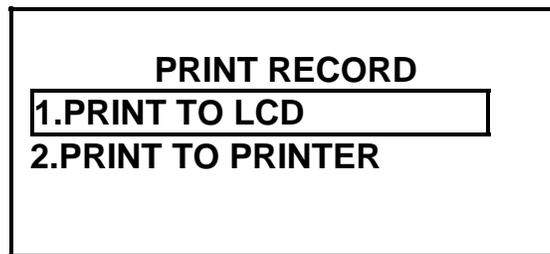

Figure 52.0 Print Record Restored Menu
- b. **Origin:** Selecting menu option 1 (“YES”) from the “Print Record Restored Menu” (Figure 52.0).